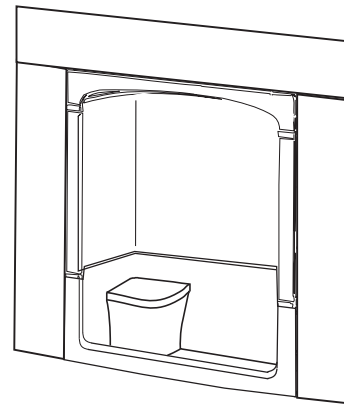

FIGURE 4 - DRYWALL FINISHING
11. Drywall finish the framed alcove as shown in Figure 4.
- Finish with drywall as shown in Figure 4.